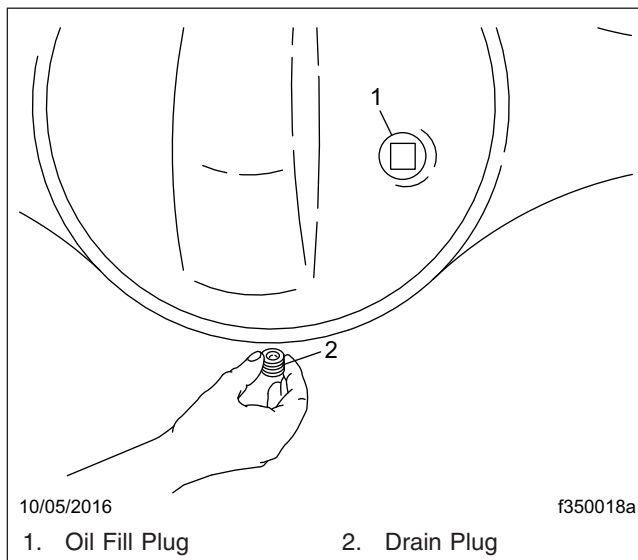

Fig. 3, Axle Housing Drain and Fill Plugs
2. Clean the area around, and including, the fill plug. Remove the plug from the oil fill hole (or standpipe if installed in the oil fill hole) located in the axle housing rear cover. See **Fig. 3**.
3. Place a drain pan under the rear axle drain plug. Remove the drain plug at the bottom of the axle housing and allow sufficient time for all old lubricant to run out. See **Fig. 3**.